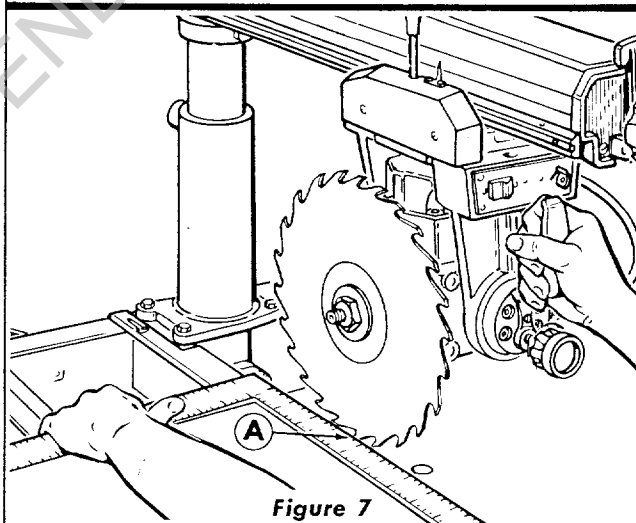

Figure 7
- Place a framing square on the table as shown in figure 7 and position the saw and square until the leg of the square just contacts a tooth of the saw blade. (Position "A", figure 7.) Mark this tooth with crayon or chalk.
- If saw tooth ("A", figure 7) moves away from the square when moving the blade from the rear toward the front of the table, tap the right-hand front edge of the table.
- If the saw tooth ("A", figure 7) moves into the square when moving saw from the rear to the front of saw table, tap the left-hand front edge of table.
make saw tooth ("A", figure 7) follow edge of square when the saw blade is moved in and out in a "cross cut" manner.